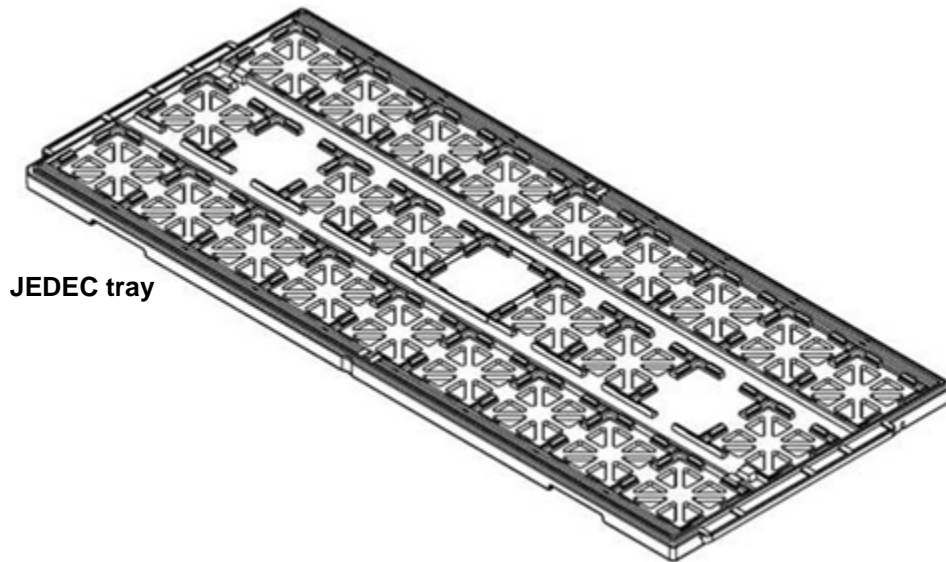

Figure 30. JEDEC tray example
- Freescale complies with standard JEDEC tray design configuration – See Figure 30.